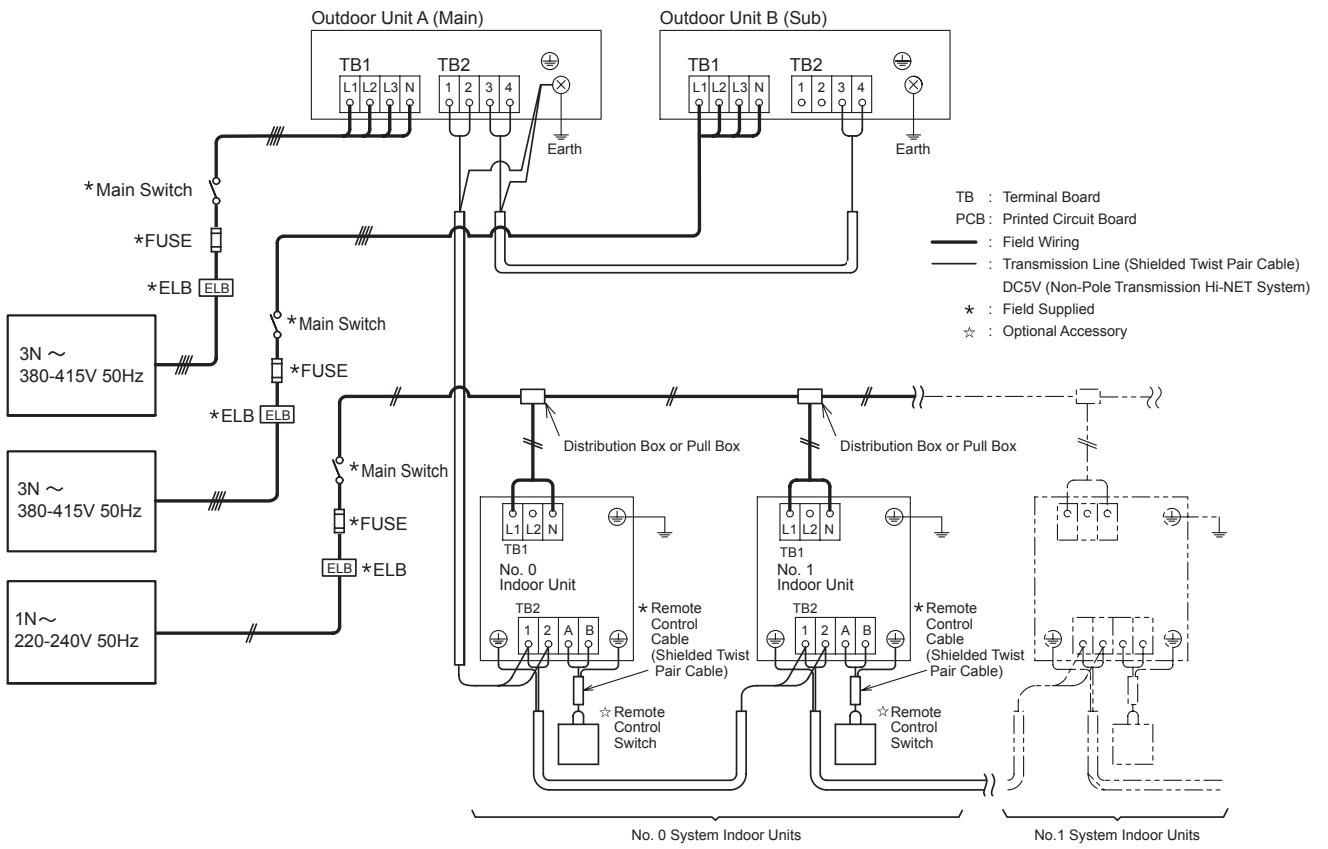

Fig. 7.2 Instruction for Electrical Wiring Connection
- (3) Connect the transmission wiring between indoor units and outdoor units, as shown in Fig. 7.2 and 7.3.
- (4) Connect the transmission wiring in the same refrigerant cycle unit. (In case that the refrigerant pipe of indoor unit is connected to the outdoor unit, connect the transmission wiring to the same indoor unit.)